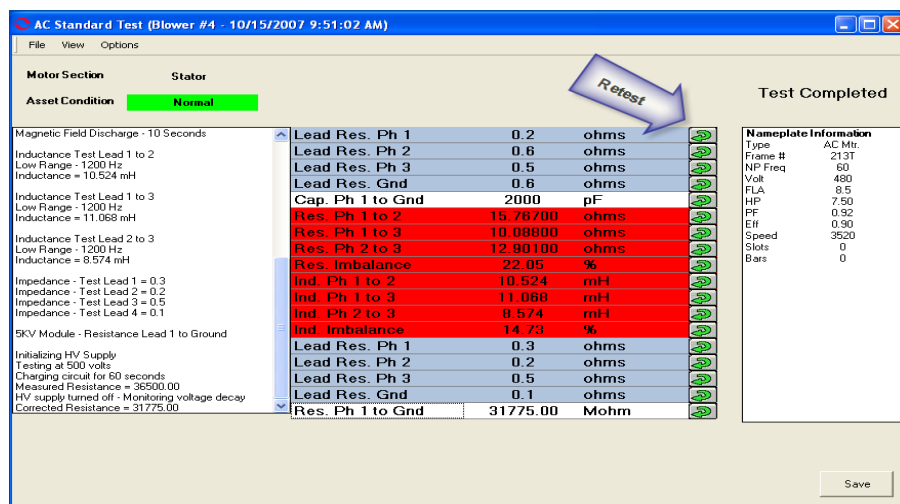

Figure 5-14: AC Standard Test Window
18. Testing begins, progress bars are displayed for Total Test Progress and Discharge Progress at various times. The test values are filled in as testing proceeds. At the end of testing Test Completed appears above the Nameplate Information area. See Figure 5-14.
If any portion of the test needs to be re-tested, double click the tab which appears to the right of the individual test point. This rechecks only that test point in “manual mode.” See Figure 5-14.